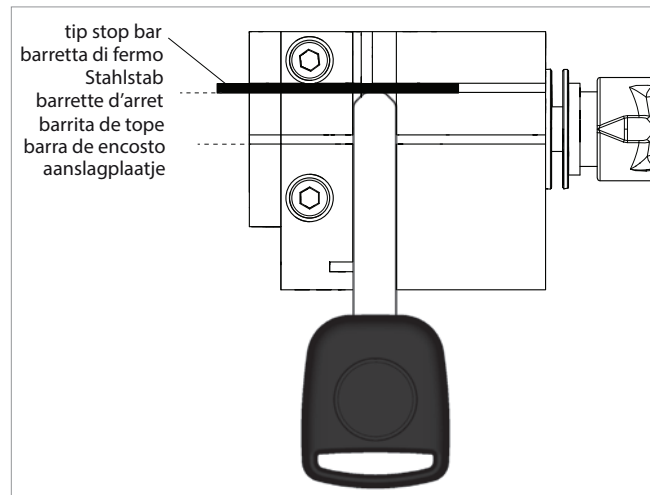

Fig. 26
- 2) Place the original key into the left-hand clamp of the machine making sure that the key tip is pressed against the stop bar (Fig. 26) and lock it.